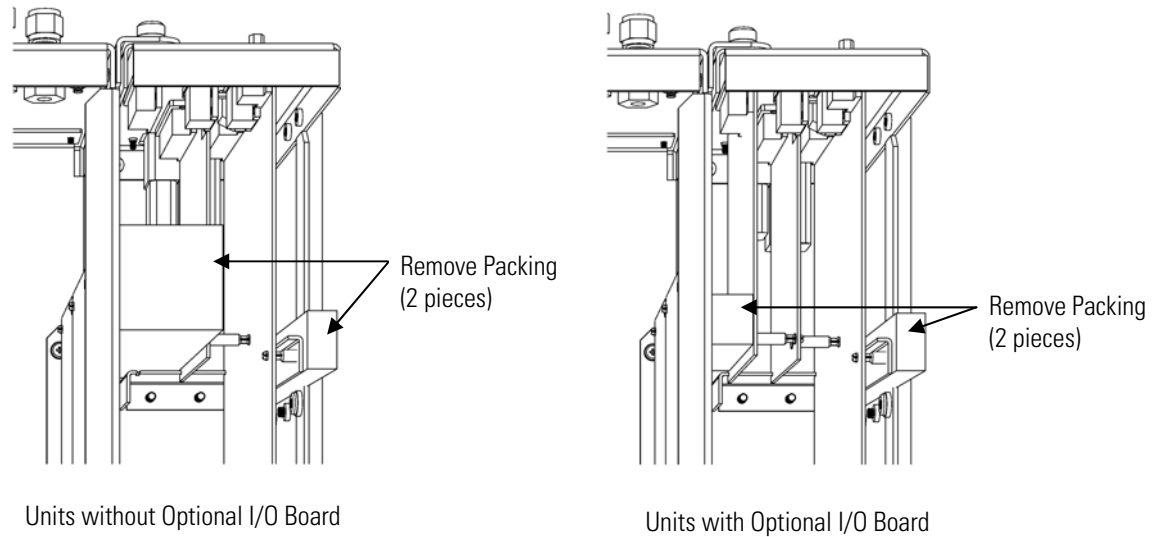

Figure 2–1. Remove the Packing Material
3. Remove the packing material in the analyzer (Figure 2–1).